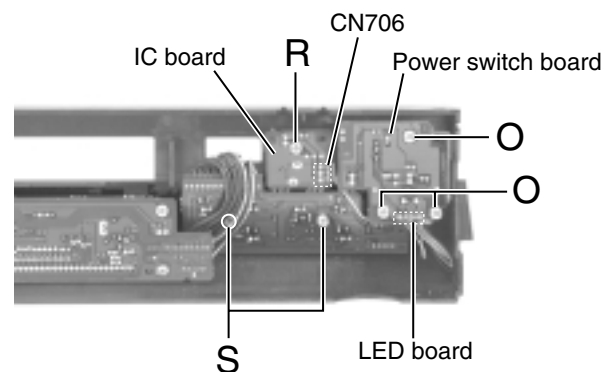

Fig.27
■ Removing the power switch board (See Fig.27)